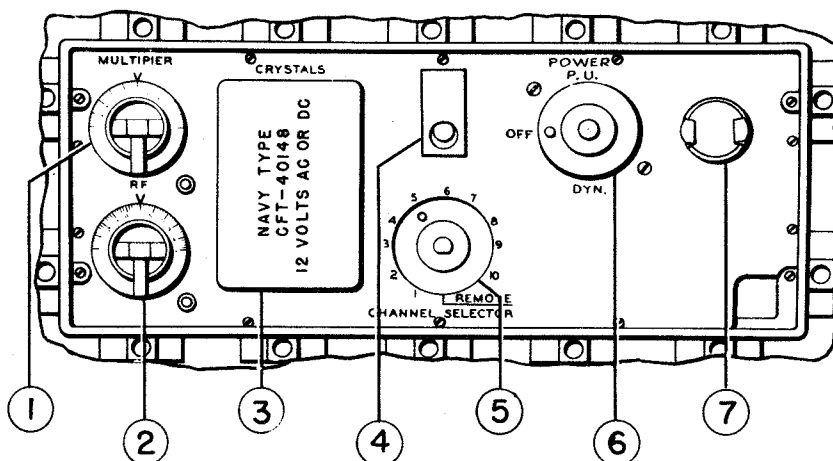

Figure 4-2. Selector Panel Controls
(2) SELECTOR PANEL FITTINGS.—Normally not accessible, as the selector panel (Figure 4-2) is protected by a splashproof cover while the equipment is in use.